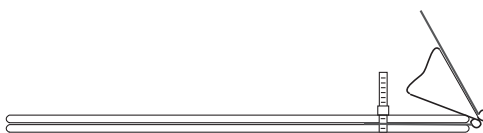

Figure 6.
2. Insert one metal arm of the binder clip between the two tongue depressors, past the cable tie. Since the cable tie is very tight, the arm will fit snugly between the tongue depressors (see Figure 6).